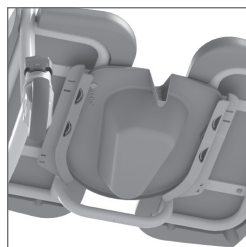

Figure 7. Bedpan.
- The bedpan or bucket is slid in from the back of the chair (See figure 7).